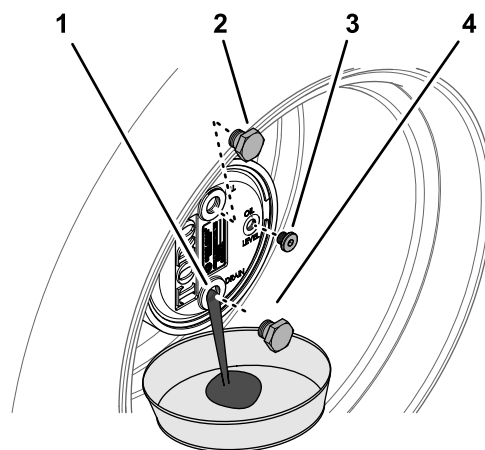

Figure 74
3. Place a drain pan under the planetary hub, remove the drain plug at the 6 o'clock position, and allow the oil to fully drain (Figure 74).
5. Install the drain plug into the drain hole of the planetary housing (Figure 74).
2. Remove the fill plug at the 12 o'clock position and the check plug at the 3 o'clock position (Figure 74).